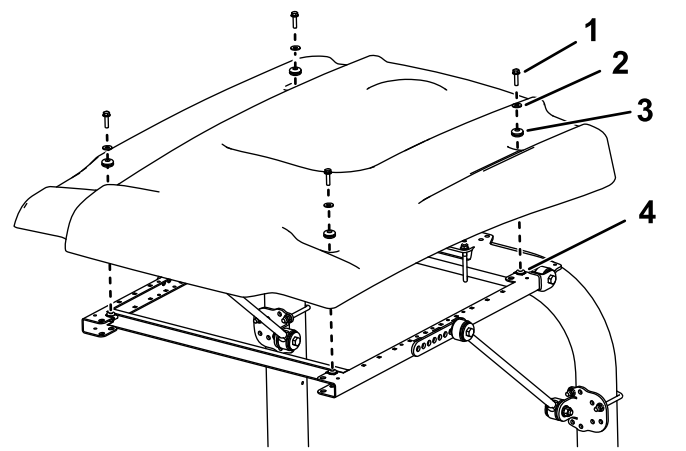

Figure 38
15. While aligning the mounting holes, position the sunshade onto the frame as shown in Figure 38.
16. Loosely mount each corner of the sunshade to the frame with a flange-head bolt (5/16 x 1-1/4 inches), a small washer, and a grommet (Figure 38).